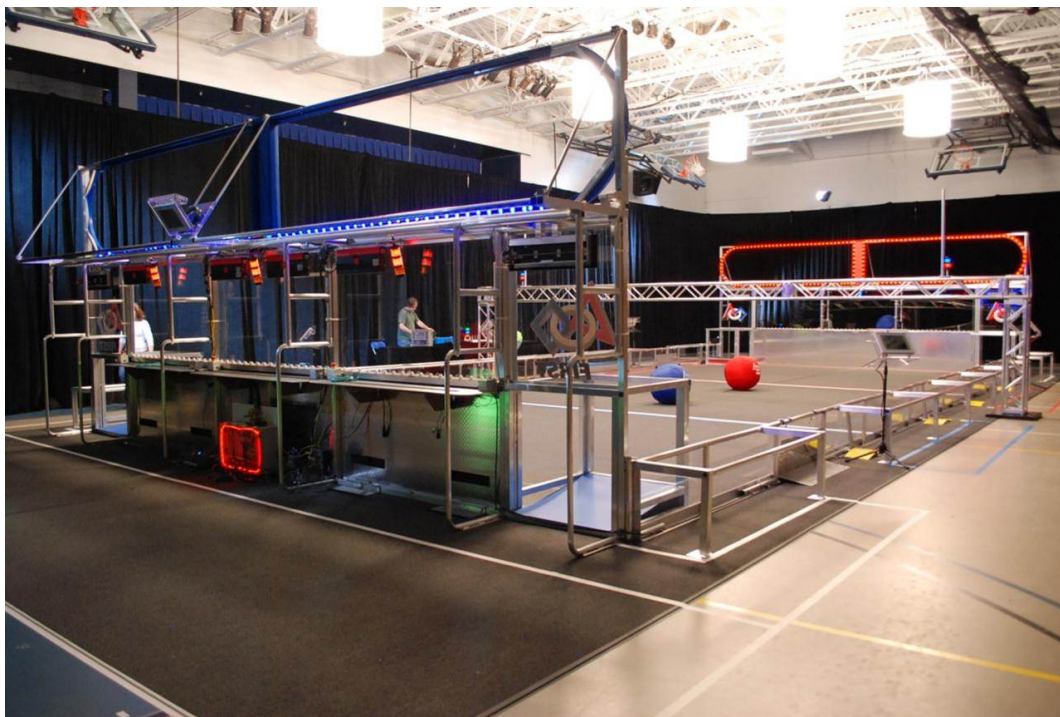
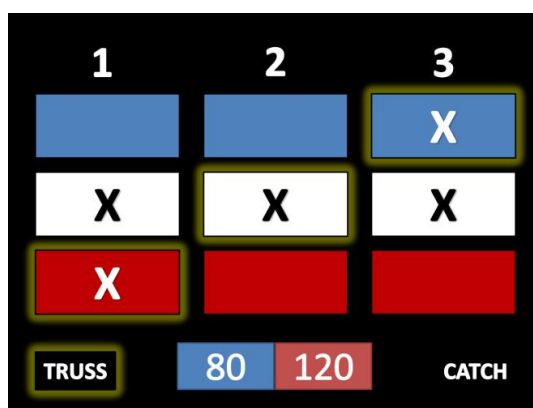
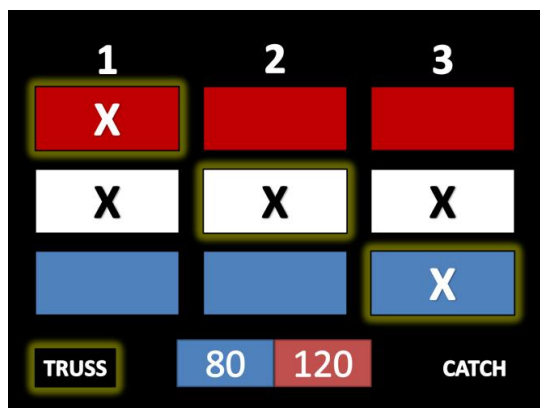

Figure 2-12: Display Location
Figure 2-13: Blue Panel Display
Figure 2-14: Red Panel Display
Each ALLIANCE STATION has one (1) flat panel display centrally mounted above the middle PLAYER STATION. The display shows the ALLIANCE each ZONE where the ALLIANCES' ROBOTS have been granted credit for POSSESSION. Further, the panel highlights the unique ROBOT-ZONE pairs that are recognized as ASSISTS. The display is shown in Figure 2-12, Figure 2-13, and Figure 2-14.